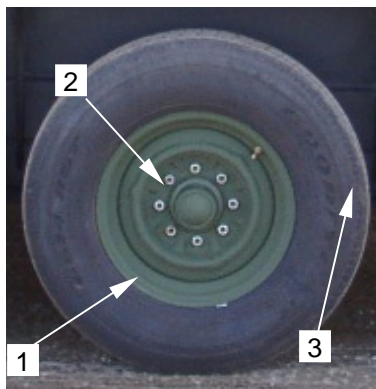

Figure 1. Rim and Tire
1. Inspect the rims (**figure 1, item 1**) for breaks, dents or other damage. Note any missing lug nuts (**figure 1, item 2**). Report a damaged rim and/or missing lug nuts to unit maintenance.
2. Inspect tires (**figure 1, item 3**) for damage and worn threads. Report damaged nuts and threads to unit maintenance. Note any flat or under-inflated tires.